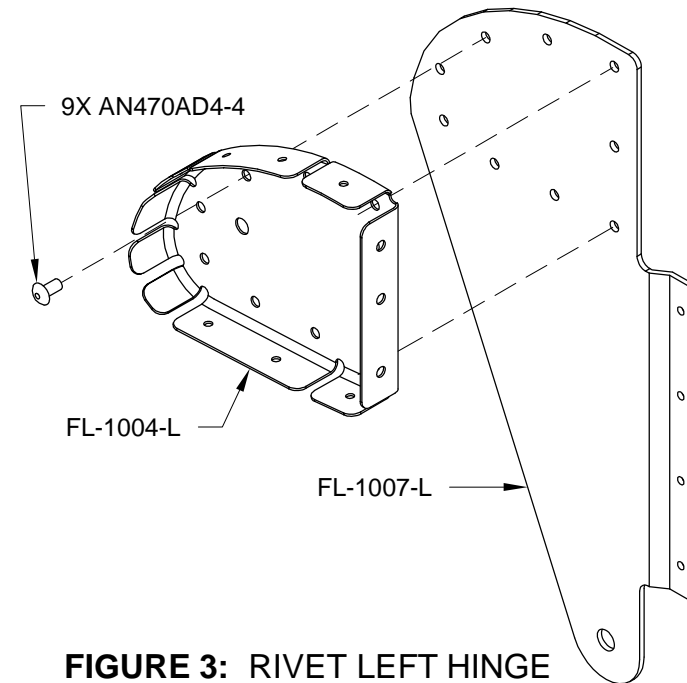

FIGURE 3: RIVET LEFT HINGE PAIR RIB SUBASSEMBLY
Step 3: Rivet together the FL-1004-L Nose Rib and the FL-1007-L Hinge Bracket using the rivets called out in Figure 3.